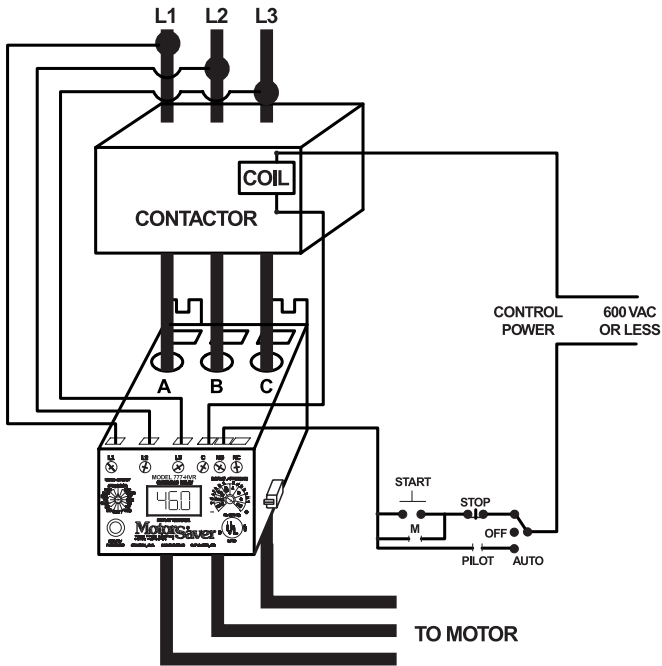

FIGURE NO. 1: Typical Wiring Diagram
2. Insert the motor conductors through the round holes marked "A", "B", and "C." Terminate the conductors at the line or load side of the magnetic contactor. **Note: For motors with full load amps less than 25 Amps**, loop the conductors through the holes marked "A", "B", and "C" according to Table No. 1 below. The rectangular holes behind the holes marked "A", "B" and "C" are provided for wire looping. (see Figure No. 1).
4. Connect the three-phase power from the line side of the contactor to "L1", "L2" and "L3". First insert a #14 - #18 AWG wire into the top of the terminal marked L1 and tighten the screw on the front of the overload relay. Then, connect the other end of the wire to the line side of the contactor. Repeat these two steps for L2 and L3 (See Figure No. 1).
5. Connect the output relay to the circuitry to be controlled (See Figure No. 1). To control a motor, connect the normally open contact in series with the magnetic coil of the motor starter as shown. To sound an alarm, connect the normally closed contact in series with the alarm (not shown).